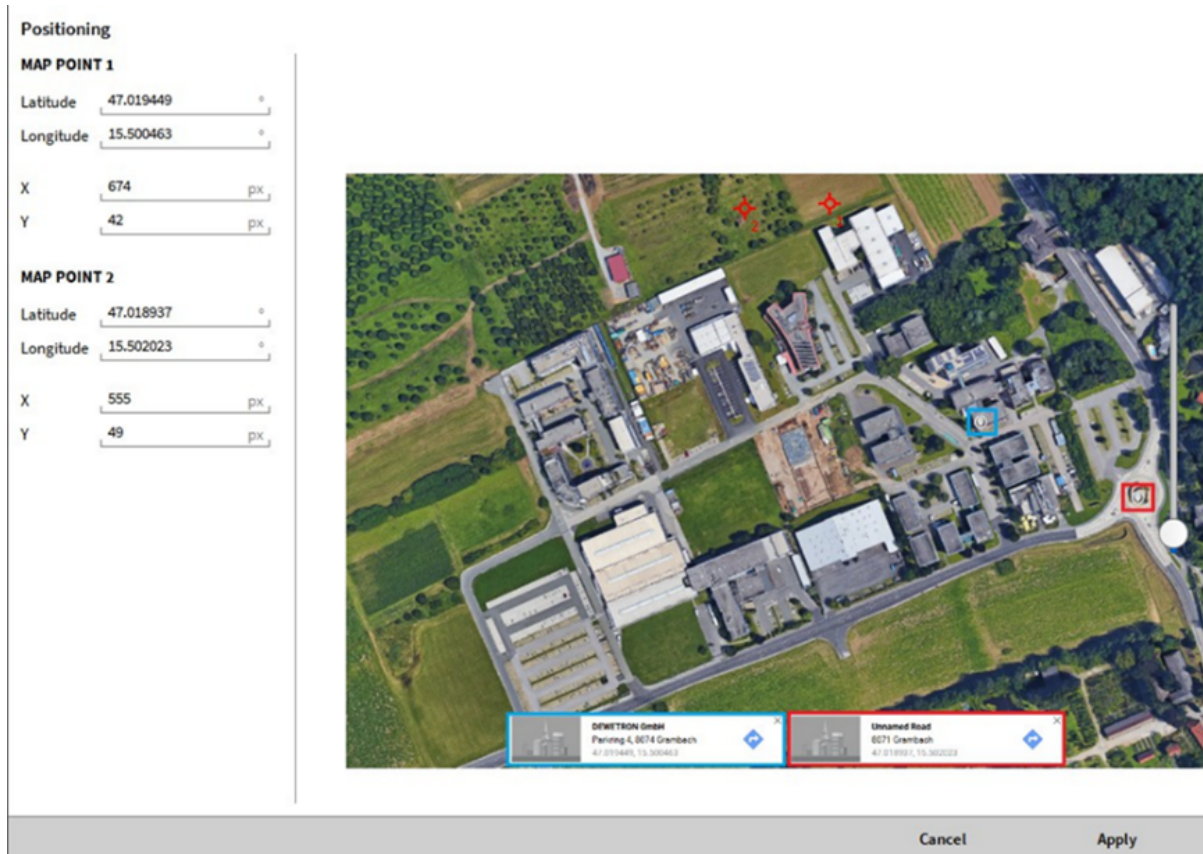

Fig. 8.103: Image positioning dialog
Two GPS coordinates within the loaded image must be known to position the image correctly. In Fig. 8.103, the two points and their corresponding coordinates are marked with red and blue. The procedure to position the image is the following:
- Two red cursors are generated by the Positioning dialog. In Fig. 8.103, they can be found at the top of the image. These cursors must be put on the known coordinates.
- *Latitude* and *Longitude* of *MAP POINT 1* must be entered for the known coordinates the first red cursor is placed on. In Fig. 8.103, this is the GPS coordinate marked with blue
- *Latitude* and *Longitude* of *MAP POINT 2* must be entered for the known coordinates the second red cursor is placed on. In Fig. 8.103, this is the GPS coordinate marked with red